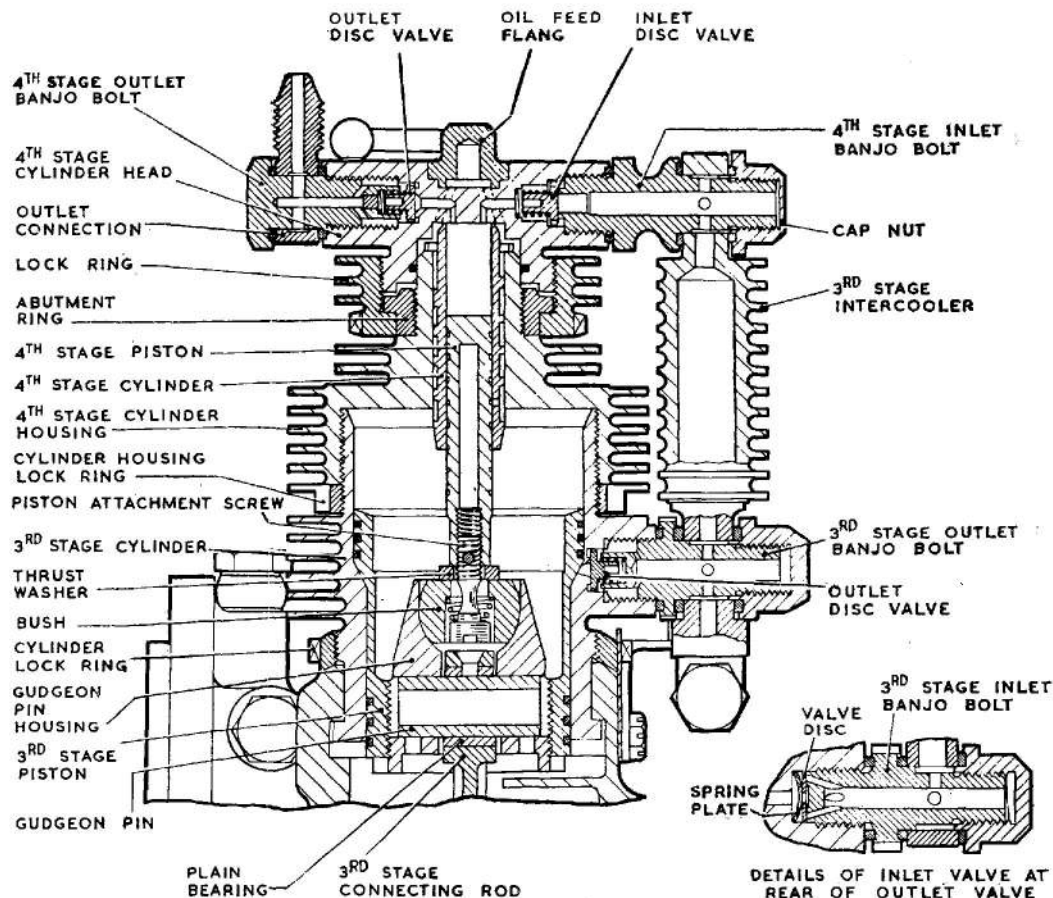

Fig. 4. 3rd and 4th stage system
(2) Unscrew the 2nd stage inlet banjo bolt from the side of the cylinder and remove the washers, the valve disc and the spring plate.
(3) Unscrew the 2nd stage outlet banjo bolt from the side of the cylinder and remove the washers, spring and outlet disc valve.
20. *3rd stage valves (fig. 4).*—(1) Remove the cap nuts securing the 3rd stage intercooler to the unit and detach the intercooler.
(2) Unscrew the inlet and outlet banjo bolts and extract the valve components as detailed in sub-para. 19 (2) and 19 (3).
21. *4th stage valves (fig. 4).*—(1) Unscrew the inlet and outlet banjo bolts and detach the outlet connection.